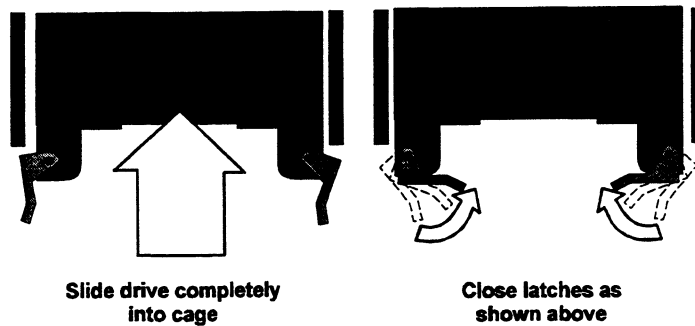

Figure 3-9 Installing drive into hot-swap cage
10. Once the drive is seated into the cage, close the latching clips until they lock into place, as shown in Figure 3-9.